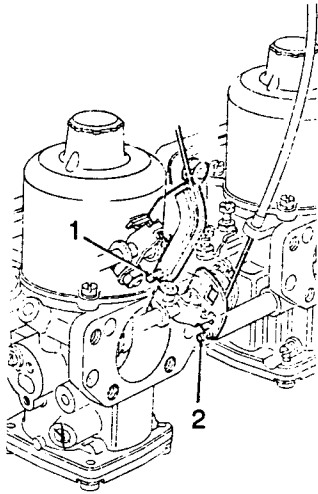

Fig B4.76
- (16) Refer to Fig B4.76. Refit the mixture cable and secure with the fixing (2).
- (17) Replace the accelerator cable and secure with the fixing (1).
- (18) Refit the air intake box over the carburetors (see Sub-section C4, Chapter 1).
- (19) Fill the cooling system (see Sub-section E6).
- (20) Reconnect the battery.
- (21) If the position of the distributor has been disturbed, reset the ignition timing (see Sub-section D3, Chapter 2).